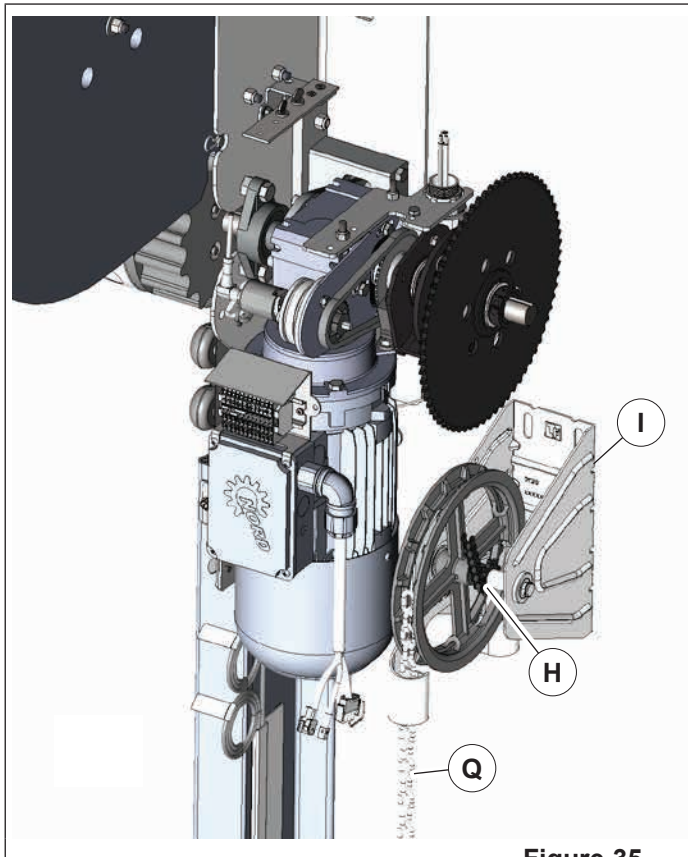

Figure 35
- Install engagement arm bracket (D) with limit switch toward gearbox.
- Install the (2) 1/4in x 1/2in [M6 x 13mm] bolts and 1/4in [M6] lock washers through the engagement arm on the top and side to hold the bracket in place (Figure 35).
11. Place the drive chain (H) around the chain hoist sprocket and then place the drive chain over the drive tube driven sprocket (Figure 35).
13. With the hand chain sprocket in toward the motor and the sprocket in line with the drive sprocket, plumb, level, mark and drill hole locations (toward bottom of the slot, to prevent chain hoist from sliding up) for fastening chain hoist assembly (I) to the wall. Use fasteners suitable to hold unit to the wall.
17. Install the hand chain (Q) (Figure 35) onto the chain hoist, down through hole in hand lever/chain blocker assembly and around chain tensioner pulley. The chain links can be taken apart to achieve the length needed.